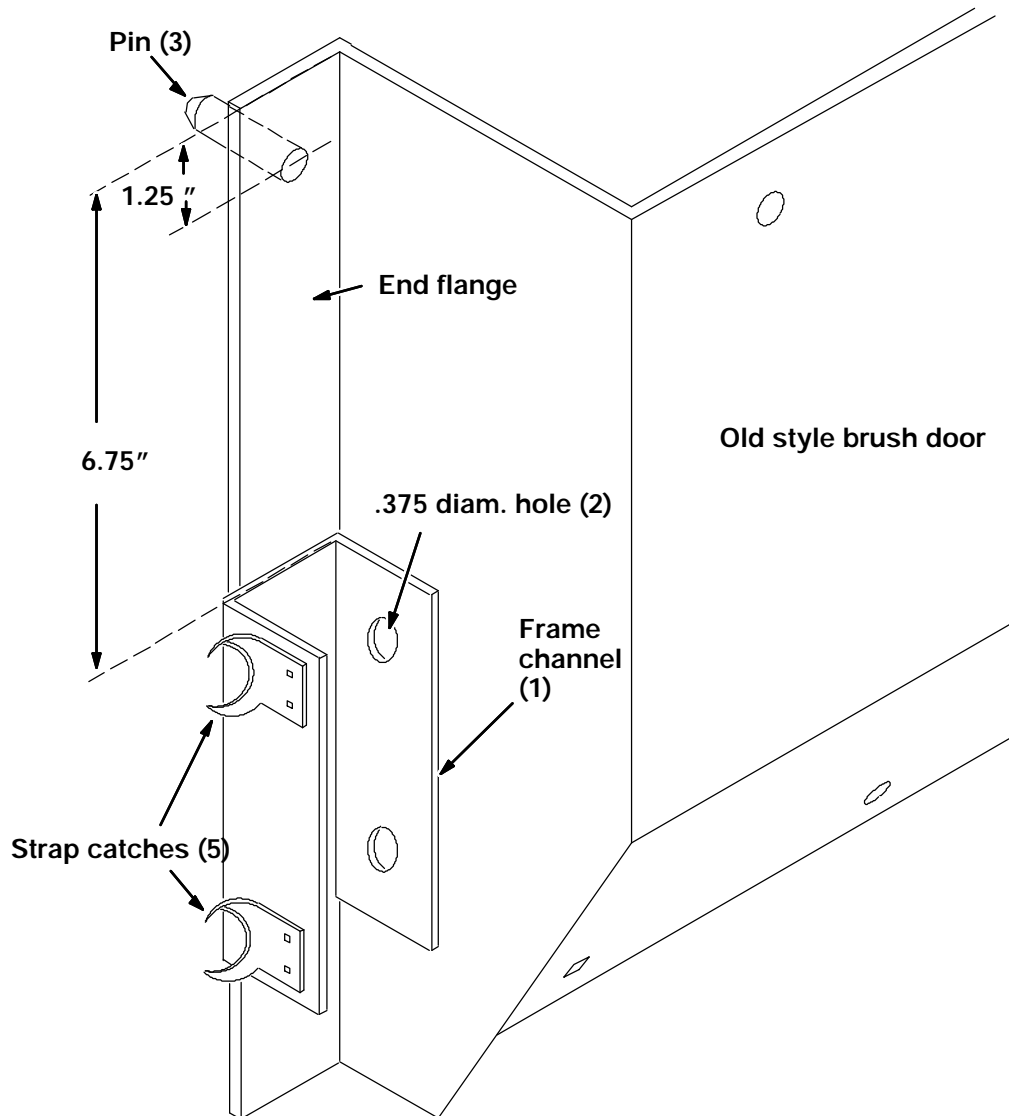

FIG. 3 - Rear Rework Of Old Style Brush Door
7. Position the frame channel (1) on the end flange of the brush door. Mark the centers of the 2 mounting holes on the door. (Refer to FIG. 3)
8. Drill two .375 inch diameter holes in the brush door at the position marked. (Refer to FIG. 3)
9. Attach the 2 retainer handle catches (contained with retainer handles) to the frame channel (1) using 4 pop rivets (4). (Refer to FIG. 3)
10. Attach the frame channel (1) to the brush door using 2 hex screws (7), 2 flat washers (8), and 2 nyloc nuts (6). Tighten to 15 - 20 ft lb. (Refer to FIG. 3)
12. Swing the brush door closed with the rear of the door raised as far as possible. Use the door retainer handles (5) hold the door in place. (Refer to FIG. 3)
13. Mark a point on the rear flange of the brush door, 1 - 1/4 inches down from the top of brush door and centered on the rear flange and rear brush shroud. (Refer to FIG. 3)
14. Keeping the door clamped in place, drill a .375 inch diameter hole on the mark made in the previous step. (Refer to FIG. 3)
15. Remove the door and enlarge the .375 inch diameter hole to 1/2 inch. (Refer to FIG. 3)
16. Position the pin (3) in the 1/2 inch diameter hole and weld it to the rear flange of the brush door. (Refer to FIG. 3)
12. Swing the brush door closed until the pin on the rear flange contacts the rear support. (Refer to FIG. 3)
13. Mark a position on the rear brush shroud where the pin at the rear of the door strikes the shroud. (Refer to FIG. 3)
14. Lower the door and drill a 1/2 inch diameter hole in the rear brush shroud where the pin hit. (Refer to FIG. 3)